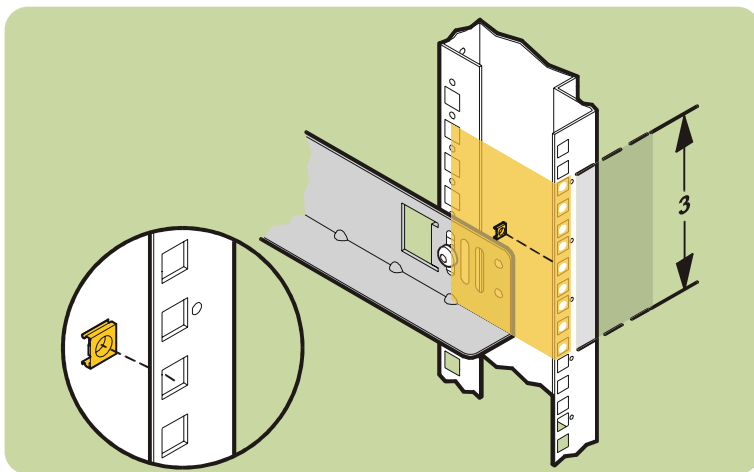

Fig. 36. Installing front column nuts in Compaq 9000
11. Install one 10-32 clip nut each on the right and left front columns (see Fig. 36). (Use the black arrow on the template as a guide.)